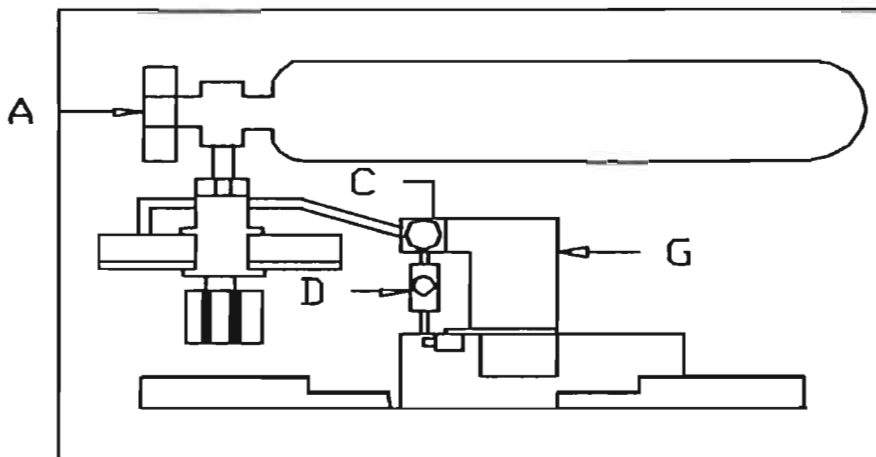

FIGURE 1
**CYLINDER MAIN VALVE:** (Fig.1, a) This valve is closed at the time of shipment. Upon receipt of the instrument, this valve should be opened all the way. This is a double seat valve and should not be left partially opened; small leaks may occur. If the instrument is to be left unused or stored for any length of time (two weeks or more) this valve should be closed.
**GAS SOLENOID:** (Fig. 1, c) This solenoid is activated during the hard pull phase of the pulling cycle. It admits nitrogen to the micrometer flow valve.
**MICROMETER FLOW VALVE:** (Fig. 1, d) This micrometer valve (needle valve) controls the flow of gas to the filament. Despite the indicated range of values, this valve has a working range of approximately 100 units from no flow to maximum flow. The micrometer markings refer to thousandths of an inch and are referred to as numerical indication x 1000 (i.e. a reading of .1 inches is called 100).
**FILAMENT BLOCK ASSEMBLY:** (Fig. 1, g) The filament block assembly is made up of several pieces of hard black nylon. Wires supplying current to the filament are attached to threaded 'posts'. This current is carried to the filament via the upper and lower heater jaws. Note that these jaws are slotted and may be moved up and down by loosening the screws that secure them to the front of the filament block assembly. If the jaws are moved, make sure that the securing screws have been tightened; otherwise poor current flow can result. It is desirable to keep the gas solenoid/flow valve assembly lined up with the nozzle to prevent leaks at the o-ring. Note the two screws in slots at the back of the filament block assembly. Loosening these screws allows the gas solenoid/flow valve assembly to slide left or right.
Remove two nuts and washers that retain heater wires to the filament holder and remove wires from posts. (Fig. 1, H).
Raise up top, move it forward slightly and rest it atop cabinet supported by solenoid bracket and back edge (Fig. 1)